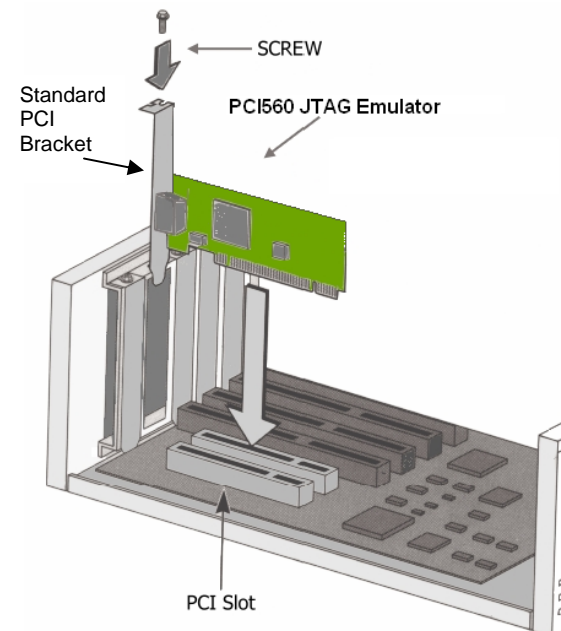

FIGURE 2 - **PCI560** Installation
2. Install the **PCI560** board (see Figure 2) making sure to secure the PCI end plate to the case. If your PC requires a low profile bracket, one has been included to easily replace the standard (taller) bracket. Please refer to the section in the Installation Guide for detailed instructions for replacing the bracket.